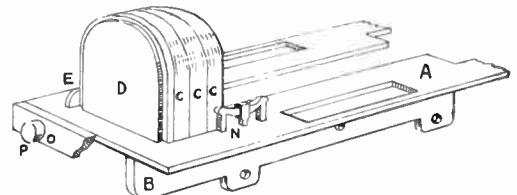

Fig. 2—Front end of footplate
A piece of  $\frac{1}{4}$  in. thick wood will be wanted for the footplate, measuring  $10\frac{1}{2}$  ins. by  $4\frac{1}{2}$  ins., and as Fig. 1 shows, there are three interior openings to be cut in it to the measurements given. The position of other pieces to be glued to this floor is shown by the dotted lines. Turning now to the cover pattern page, we cut out two pieces as (B). These are to take the axles of the wheels and will be glued to the underside of the footplate, as seen by dotted lines in Fig. 1 and in the diagram Fig. 2.
funnel is, will be made up of four pieces, as (C) on the pattern sheet, three being cut from  $\frac{1}{8}$  in. wood, and one from  $\frac{1}{16}$  in. wood. They will be glued together and cleaned round with glasspaper. The overlay (D) will be cut according to the dotted line on (C), pattern sheet, and this will be of  $\frac{1}{8}$  in. stuff. See Fig. 2 for completion of this part. Cut two of piece (E) from  $\frac{1}{4}$  in. wood and glue to pieces (C).
A buffer plate is next made from  $\frac{3}{16}$  in. wood, size  $4\frac{1}{2}$  ins. by  $\frac{1}{2}$  in., see Fig. 2 for its position. To this plate are glued the washers (P), (Y), (Z) to form the buffers, piece (Z) being rounded to form the shaped face. Some careful fretcutting and handling will be needed in our next item—the wheels.